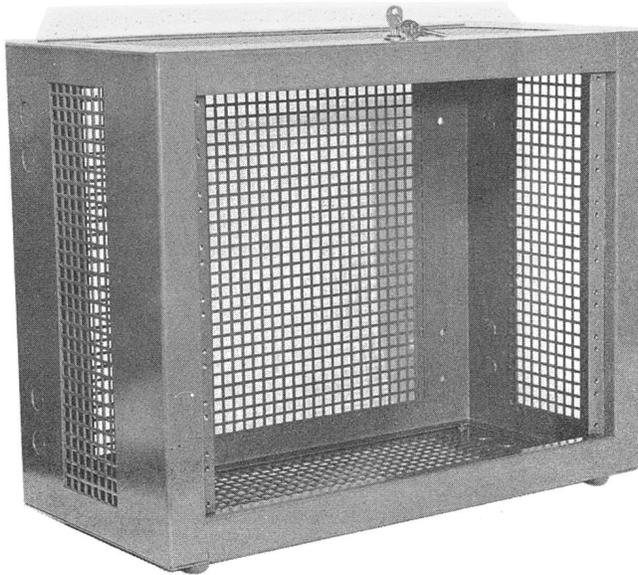

Figure 65 - GB-143A - P.T.T. Amplifier Cabinet
4.10 The GB-143A-P'T'T' amplifier cabinet measures 22-1/8" wide, 17-1/8" high, and 10-3/4" deep, plus 5/8" for glides and channel supports. It is intended to shelf mount amplifiers where considerable ventilation is required. The cabinet is highly perforated yet properly reinforced to vertically mount equipment in its 14" high by 19" wide panel space. It has a locking lid, convenient knockouts for wiring, a Western Electric gray finish, and weighs approximately 45 pounds. (Figure 65)